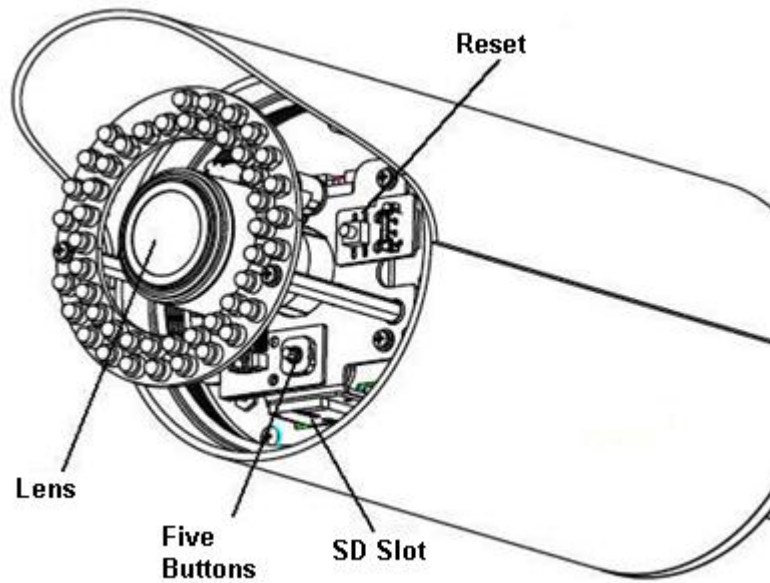

Figure 3-2 Lens
- Motorized focus series device has motorized focus lens, no need of manual adjustment by default, meantime support five adjustment buttons. Manual focus series device has manual focus lens which shall be adjusted according to actual need. See Figure 3-2.